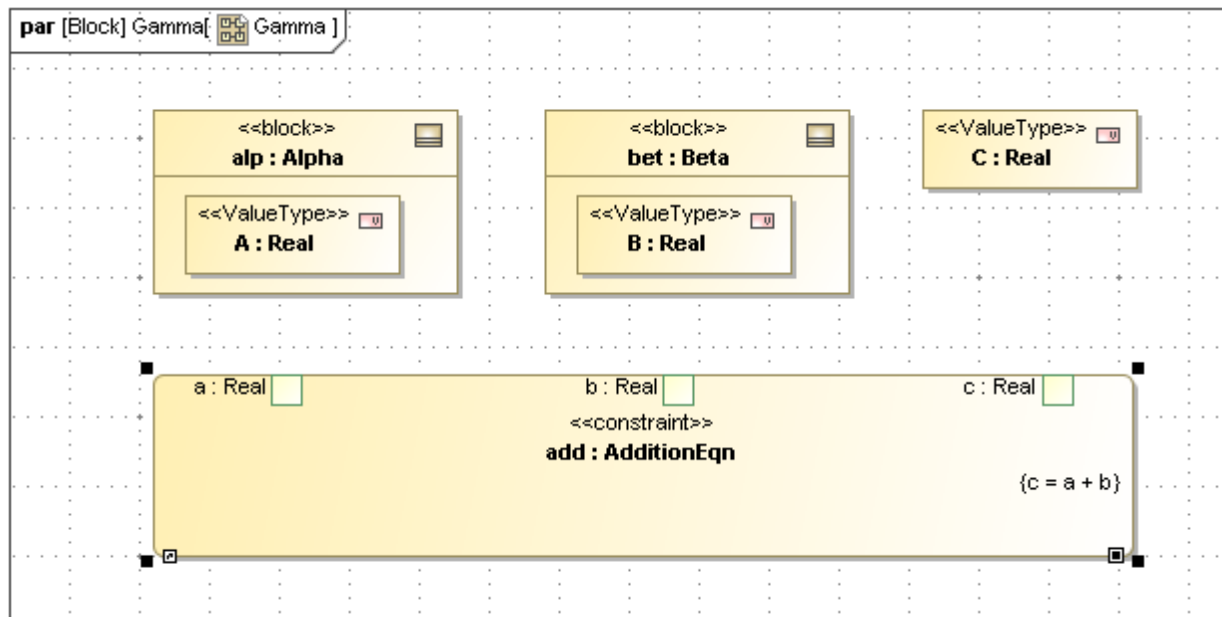

Figure 2.13 Parametric Diagram before Connectors added
- iii. Arrange them at top of block as shown in Figure 2.13.
e. The parametric diagram at this stage should appear something like Figure 2.13.